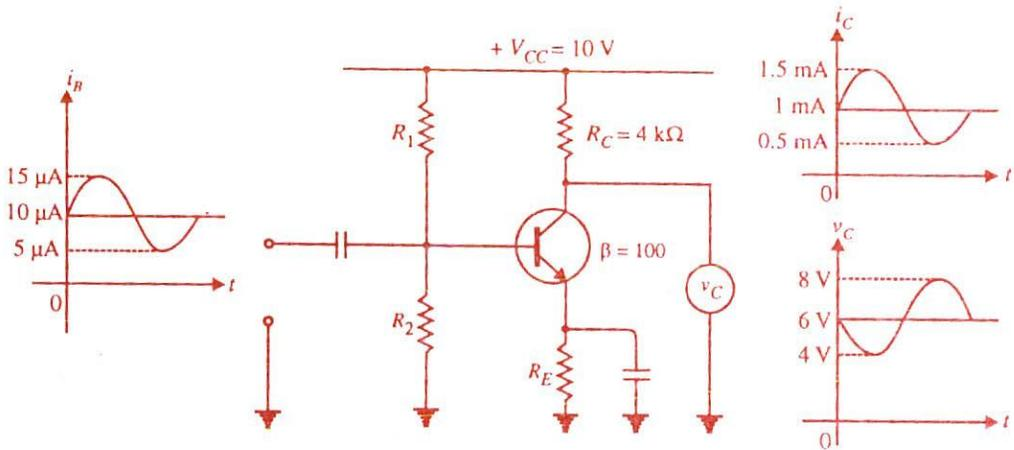

Fig. 12.6
**Solution.** In every type of amplifier, the input and output currents are in phase. However, common emitter amplifier has the unique property that input and output voltages are  $180^\circ$  out of phase, even though the input and output currents are in phase. This point is illustrated in Fig. 12.6.
Note that as  $i_C$  increases from  $1 \text{ mA}$  to  $1.5 \text{ mA}$ ,  $v_C$  decreases from  $6 \text{ V}$  to  $4 \text{ V}$ . Clearly, output voltage is  $180^\circ$  out of phase from the input voltage as shown in Fig. 12.6.